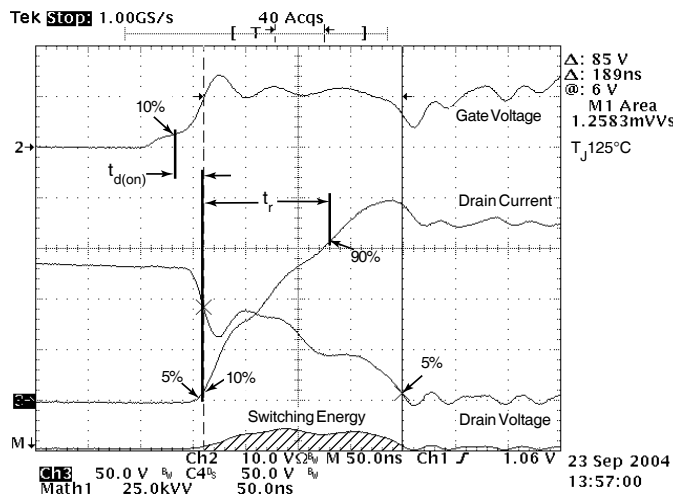

Figure 18, Turn-on Switching Waveforms and Definitions
① Repetitive Rating: Pulse width limited by maximum junction temperature
② Pulse Test: Pulse width < 380 μs , Duty Cycle < 2%
③ See MIL-STD-750 Method 3471
④ Starting $T_J = +25^\circ C$, $L = 0.23mH$, $R_G = 25\Omega$, Peak $I_L = 176A$
⑤ dv/dt numbers reflect the limitations of the test circuit rather than the device itself. $I_S \leq -I_D 176A$ $di/dt \leq 700A/\mu s$ $V_R \leq V_{DSS}$ $T_J \leq 150^\circ C$
⑥ E_{on} includes diode reverse recovery. See figures 18, 20.